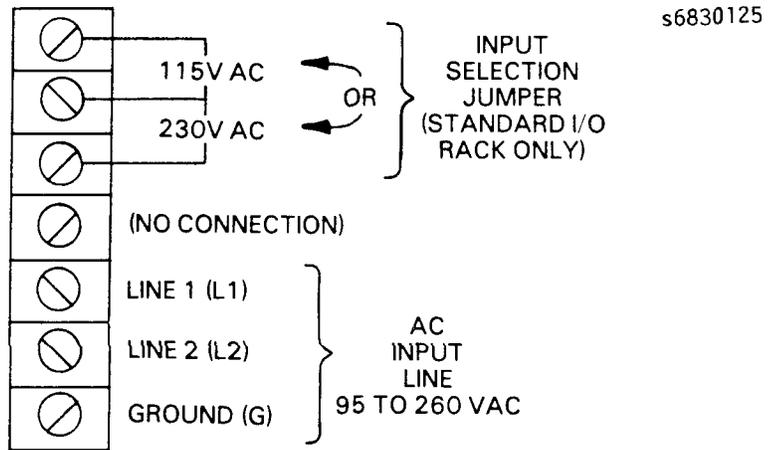

Figure 3. I/O RACK FRONT-PANEL TERMINAL BLOCK
2. POWER-SUPPLY FRONT-PANEL TERMINAL BLOCK. SEE "INSTALLATION" SECTION AND FIGURE 3 OF THIS DATA SHEET.
1. The I/O rack can be rack-mounted or panel-mounted. The location and orientation of the mounting brackets depends on the mount. Refer to Figure 3.
2. Refer to Figure 3. Connect a power cord capable of carrying the current drawn by the power supply to the terminal block on the front panel. Safety ground and signal ground connections must be made as described in the Series Six Plus Users Manual. Ensure that the input voltage jumper is positioned correctly and secured (Standard I/O rack only). After the connections have been made, mount the protective cover over the terminal block with the screws provided; make sure that the wires are routed through the opening in the cover.